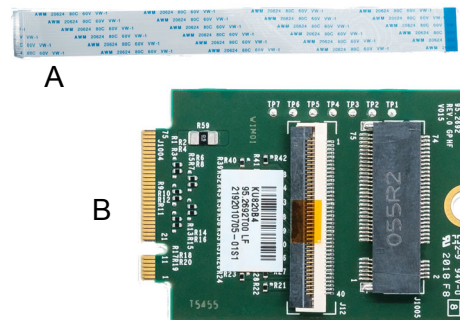

Figure 5: Additional Parts of 5G Modem Card Adapter Board Kit PCIe Variant
- 1 FFC Cable (Figure 5 A)
- 1 M.2 Interface Board (Figure 5 B)